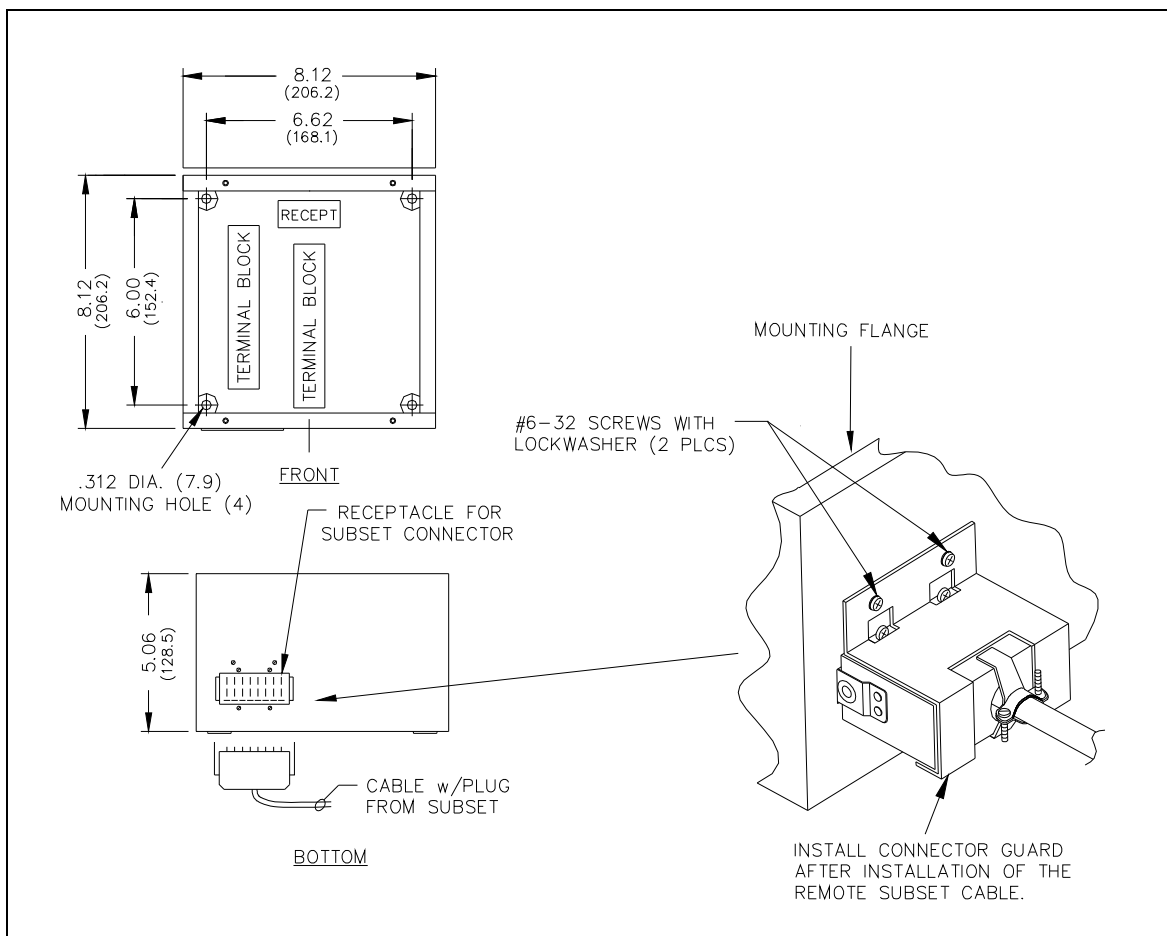

Figure 1. 7245-004 Indoor Remote Subset Amplifier Enclosure Mounting Details
There are four 0.312-inch diameter mounting holes in the corners of the amplifier enclosure. See Figure 1 for hole pattern dimensions. When mounting the enclosure, use caution to avoid damaging the terminal blocks inside. Install the connector guard over the remote cable plug using the screws provided as shown in Figure 1 to comply with NRTL requirements.
2. Plug the subset connector into the J2 receptacle located at the bottom of the enclosure. Secure the connector with the connector guard and screws provided. See Figure 1.